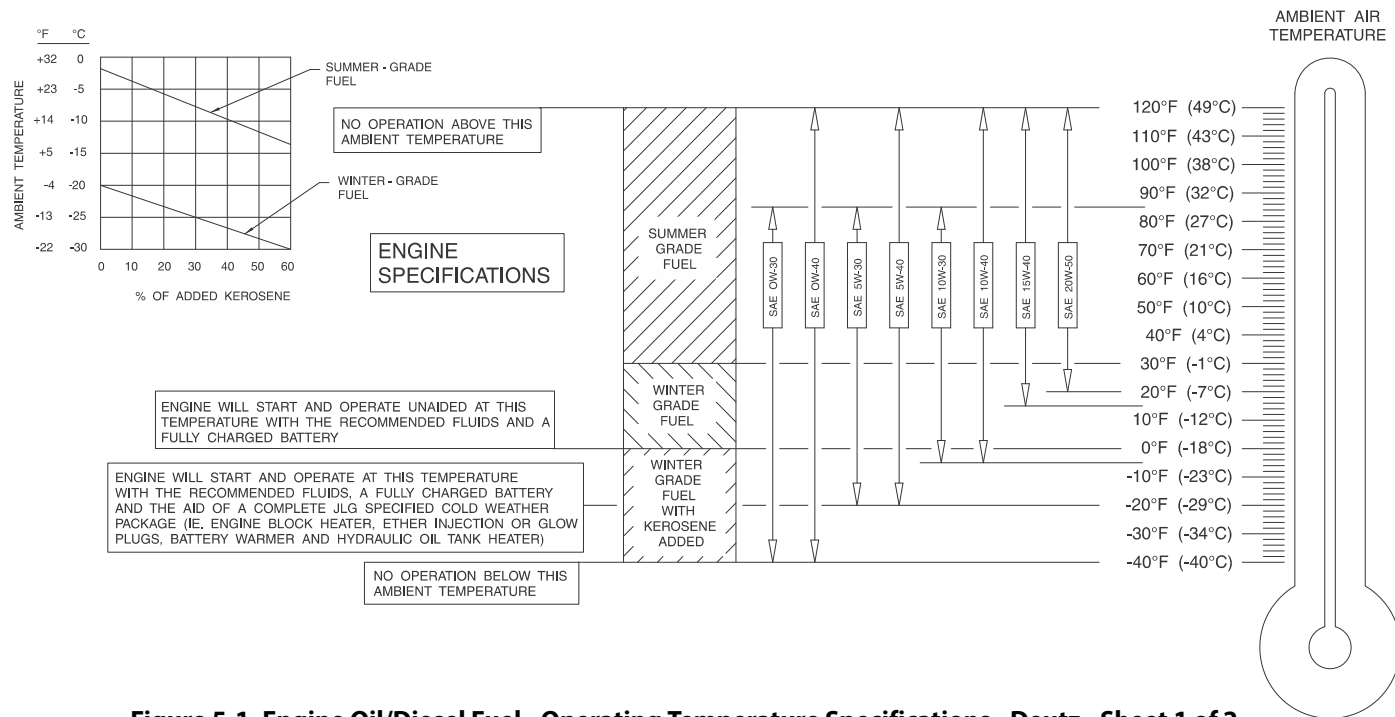

Figure 5-1. Engine Oil/Diesel Fuel - Operating Temperature Specifications - Deutz - Sheet 1 of 2
- Lube - EO - Spec: API CJ-4/CG-4 class, ACEA E3-90/E5-02, for Oil Viscosity Ref. Figure 5-1. on page 5-8 - Operating Temperature Range Chart
- Lube - EO - Spec: API CJ-4 class, for Viscosity Ref. Figure 5-1. on page 5-8 - Operating Temperature Range Chart